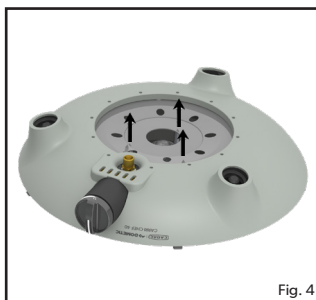
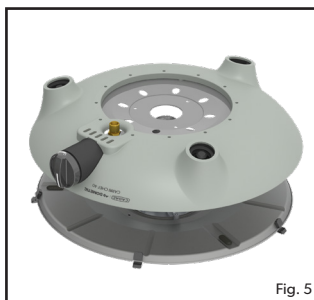
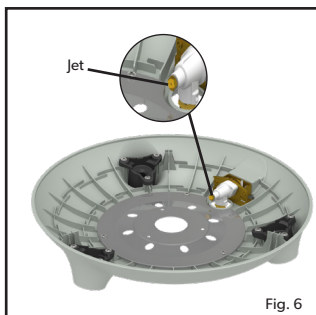

Fig. 4
Fig. 5
Fig. 6
- **To replace the jet:** Remove all loose surfaces as well as the utility tray and legs from the appliance. Turn the burner base over and remove the 3 screws from the bottom cover plate (fig.4) to separate the burner base from the burner assembly (fig. 5). Disconnect the Piezo wire, **taking care not to damage it** and remove the burner assembly from the body of the burner base to expose the jet (fig. 6). The jet can now be removed using a suitable spanner. Do not use pliers as this can damage the jet, making it unusable or impossible to remove. Screw the new jet into the valve. Do not overtighten as this may damage the unit.